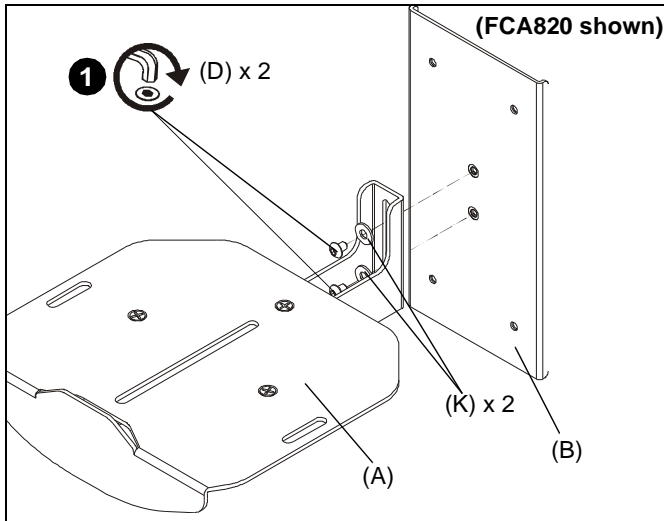

Figure 1
1. Attach FCA820/821 shelf (A) to center plate (B) using two #10-32 x 1/4" button head cap screws (D) and two #10 washers (K). (See Figure 1)